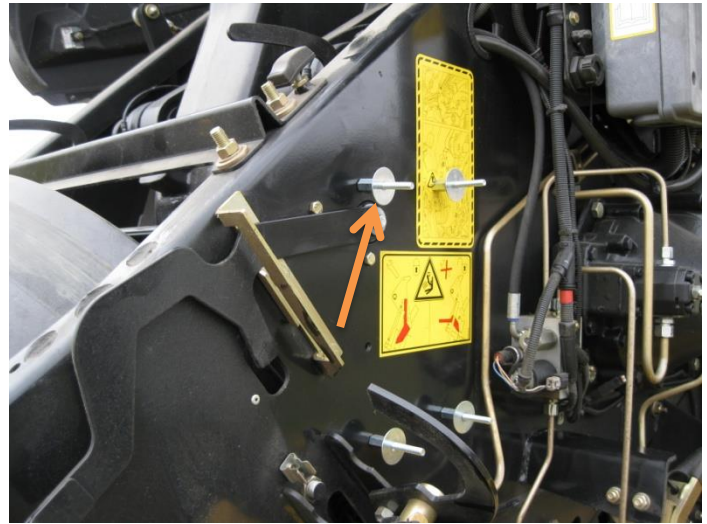

Figure 2
4. Use four 5/16" x 3" hex bolts with four flat washers (positioning bolt heads on the inside of the baler frame) and secure to the baler with four 1 1/8" threaded standoffs that will be on the outside of the baler frame, Position four fender washers between the DCP and standoffs (Figure 2).